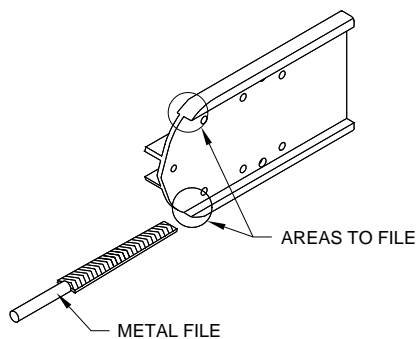

FIG. 4
- a. Using a metal file, remove any burrs that may be on the end of the ramp rail as shown in Fig. 4; burrs can cause interference and not allow the apron to install smoothly.